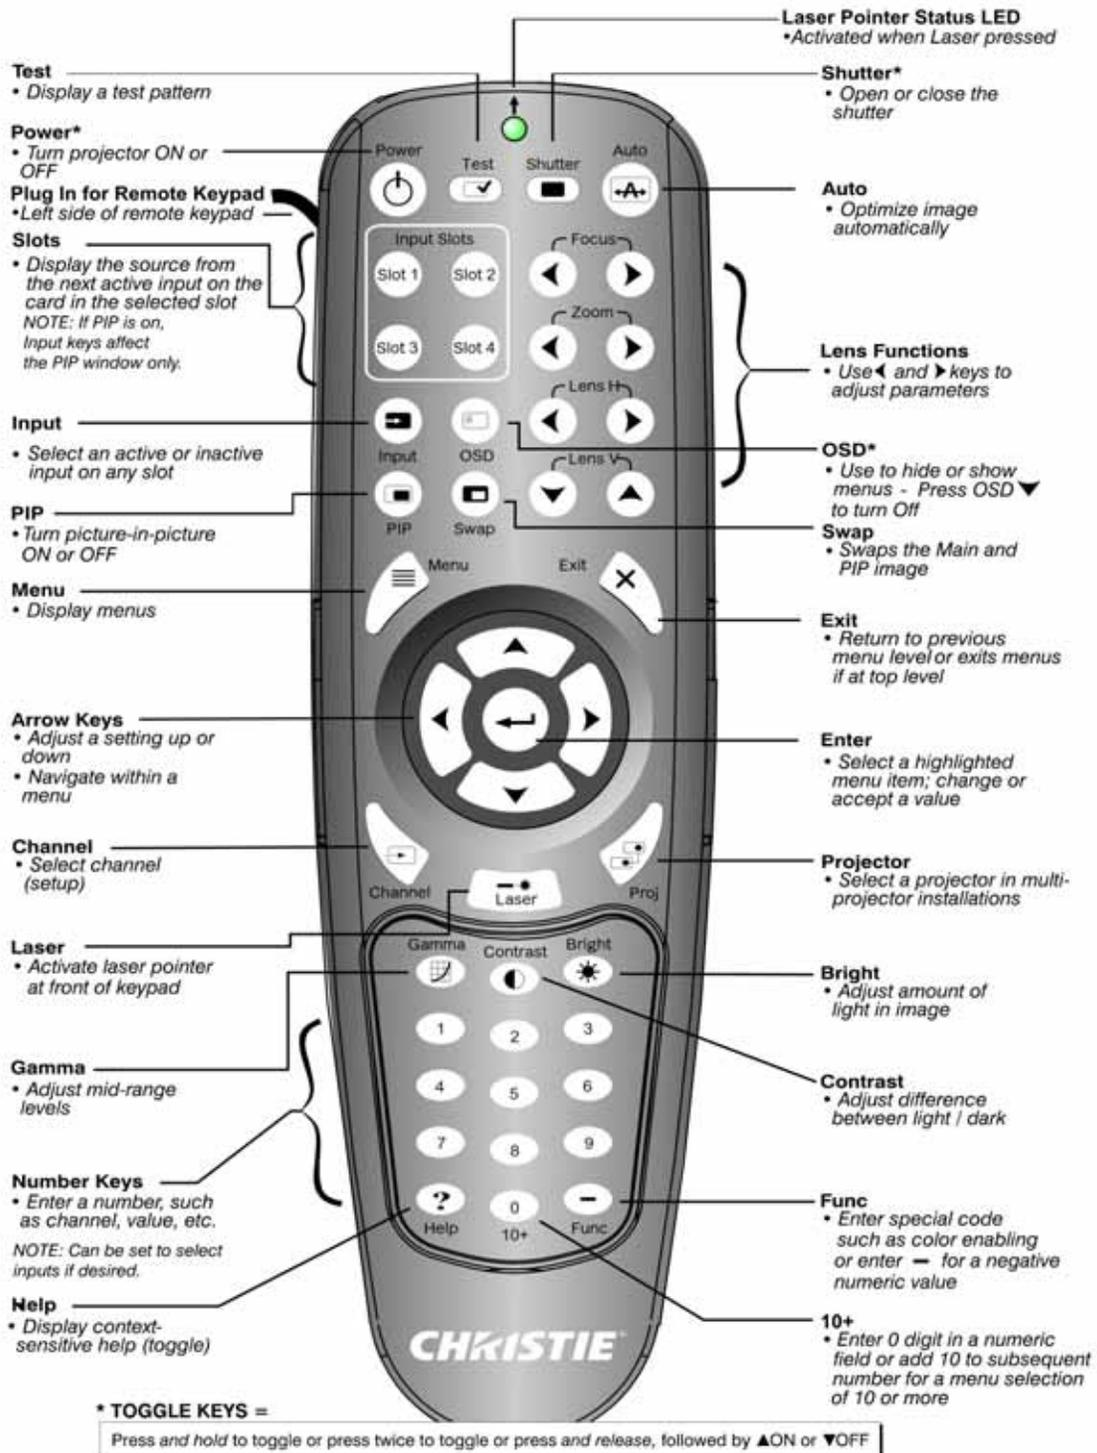

FIGURE 3-1 REMOTE KEYPAD
- **Remote Keypad:** For wired or wireless control up to 25 feet (8 m) away (includes cable for use as a wired remote). The remote keypad controls the projector by way of wireless communications from a battery-powered infrared (IR) transmitter. Use the remote keypad the same way you would use a remote keypad supplied with a TV or VCR. When pressing a function key, direct the keypad toward the projector's front or rear IR sensor. One of the two IR sensors on the projector will detect the signal and relay the commands for internal processing. A laser pointer is built into the remote keypad. See *Figure 3-1 Remote Keypad*.
**NOTE:** Use **POWER SHUTTER** and **OSD FUNCTIONS** by doing one of the following: “press-and-hold” (2 seconds) or press twice quickly, followed by pressing either the **UP ARROW KEY** to switch on or the **DOWN ARROW KEY** to switch off once. See *Figure 3-1 Remote Keypad*.